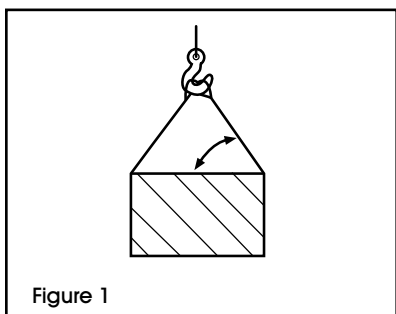

Figure 1
- Angle of lift must be considered in all lifts. (See Figure 1)